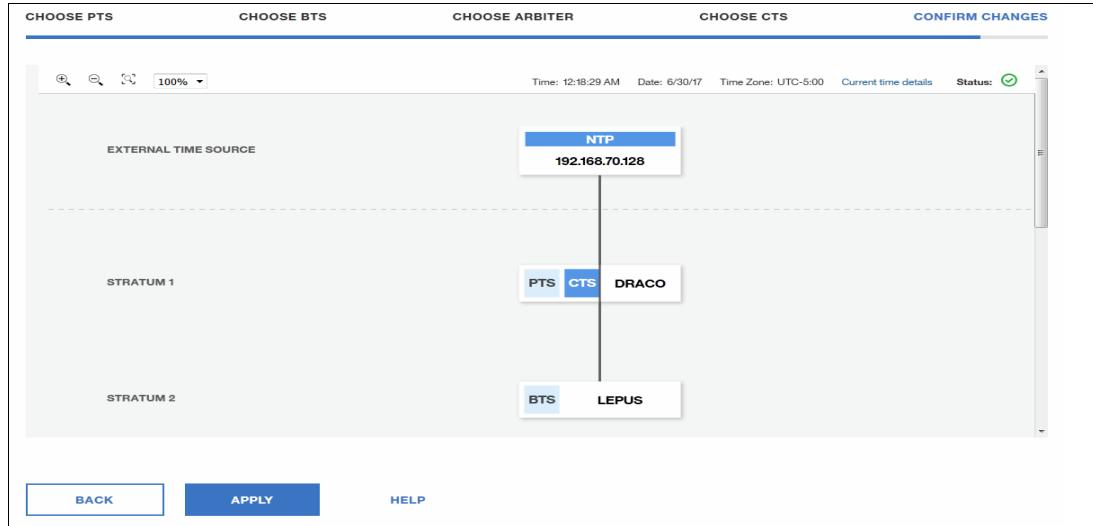

Figure 8-65 Confirm Changes
6. The **CONFIRM CHANGES** window opens. Check the CTN topology. Click **APPLY** to reflect changes (Figure 8-65).